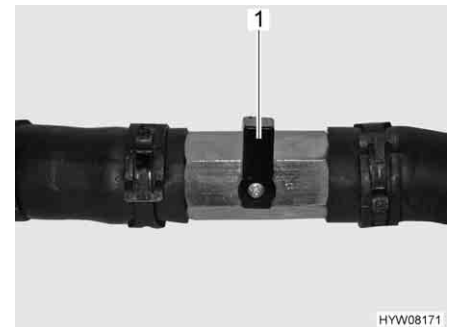

Fig. 187 Stopcock is closed
- Set the lever (Fig. 187, 1) of the stopcock at right angles to the pipe.